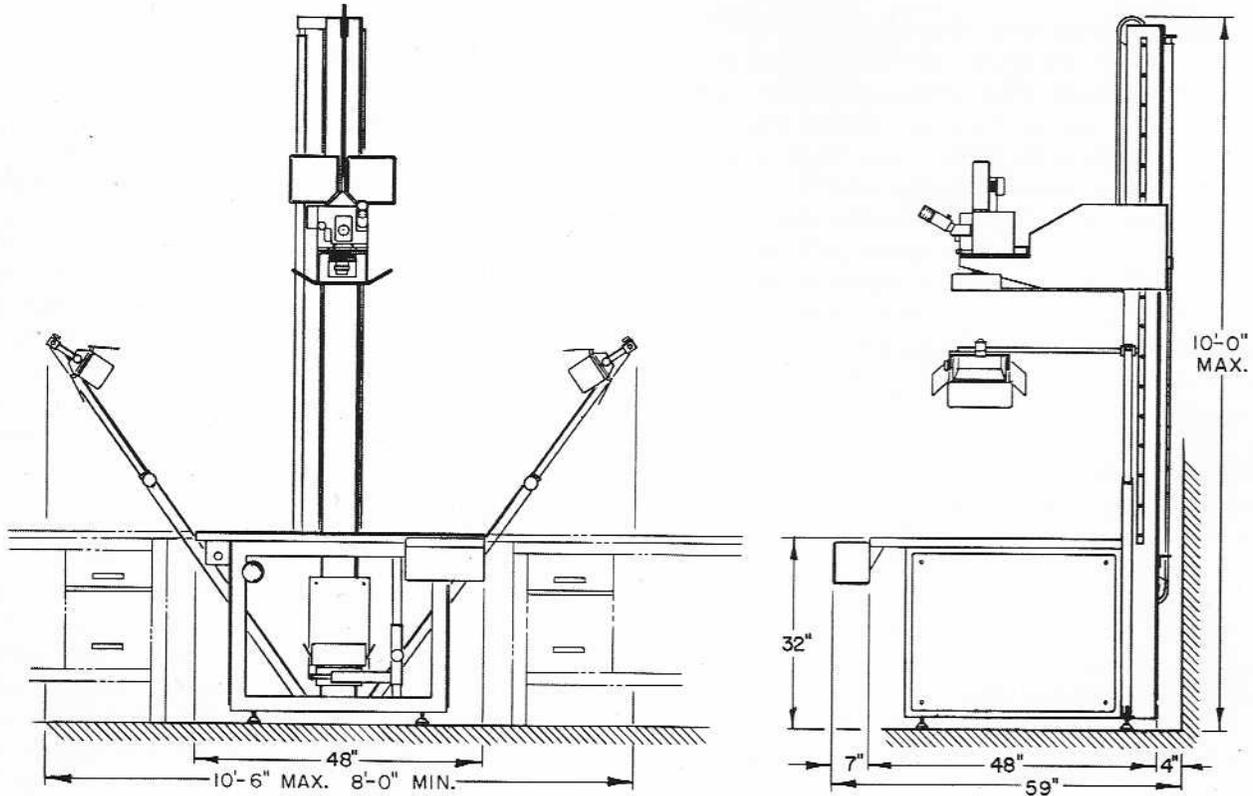

Figure 6. Outline Dimensions
**4.2 FLOOR SPACE.** Camera and stand require a minimum floor area of 9 feet x 7 feet to allow sufficient room for cameraman's chair. Ceiling height of 10 feet is necessary (see Figure 6) unless factory has been instructed to shorten the column. In the case of dropped ceilings, an area of 2 feet wide by 4 feet out from the wall may be